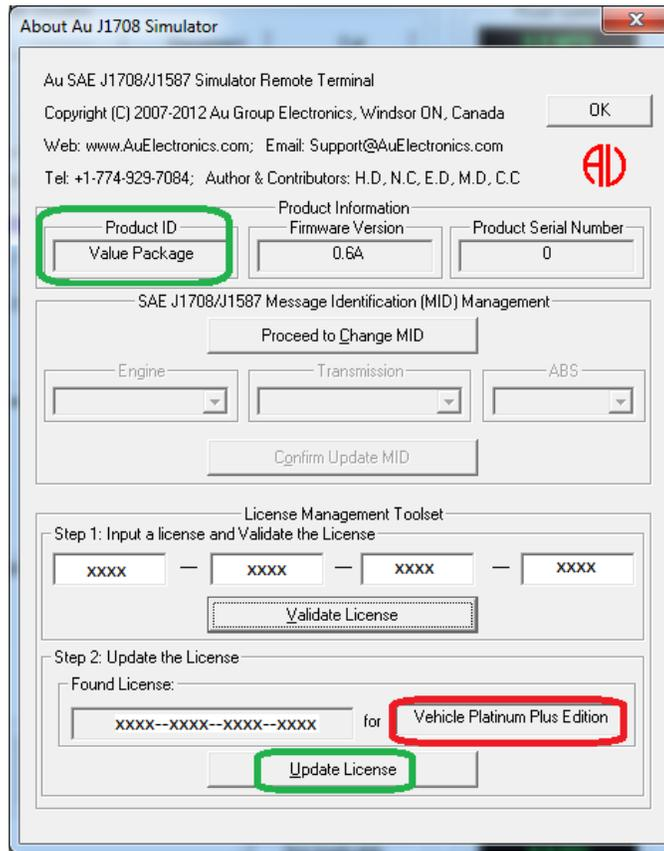

Figure C-5
- 5. After a validate license is entered, Updated license Information will display, as demonstrated here in Figure C-5, J1708 Simulator Value Package edition will be upgraded to Engine Basic Plus Edition, click “Update License” button.